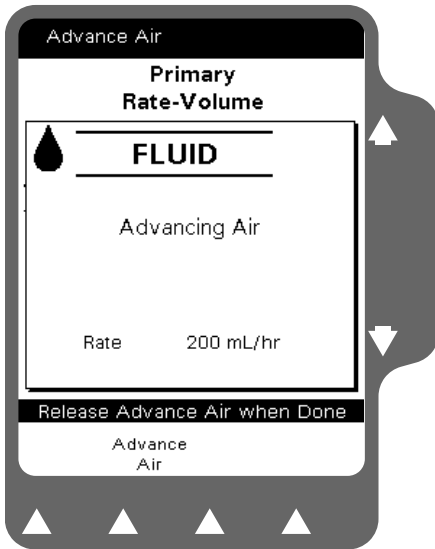

Figure 6-3 Fluid Detected
1. Release the **Advance Air** soft key when the bubble can be seen or fluid is detected (Figure 6-3).